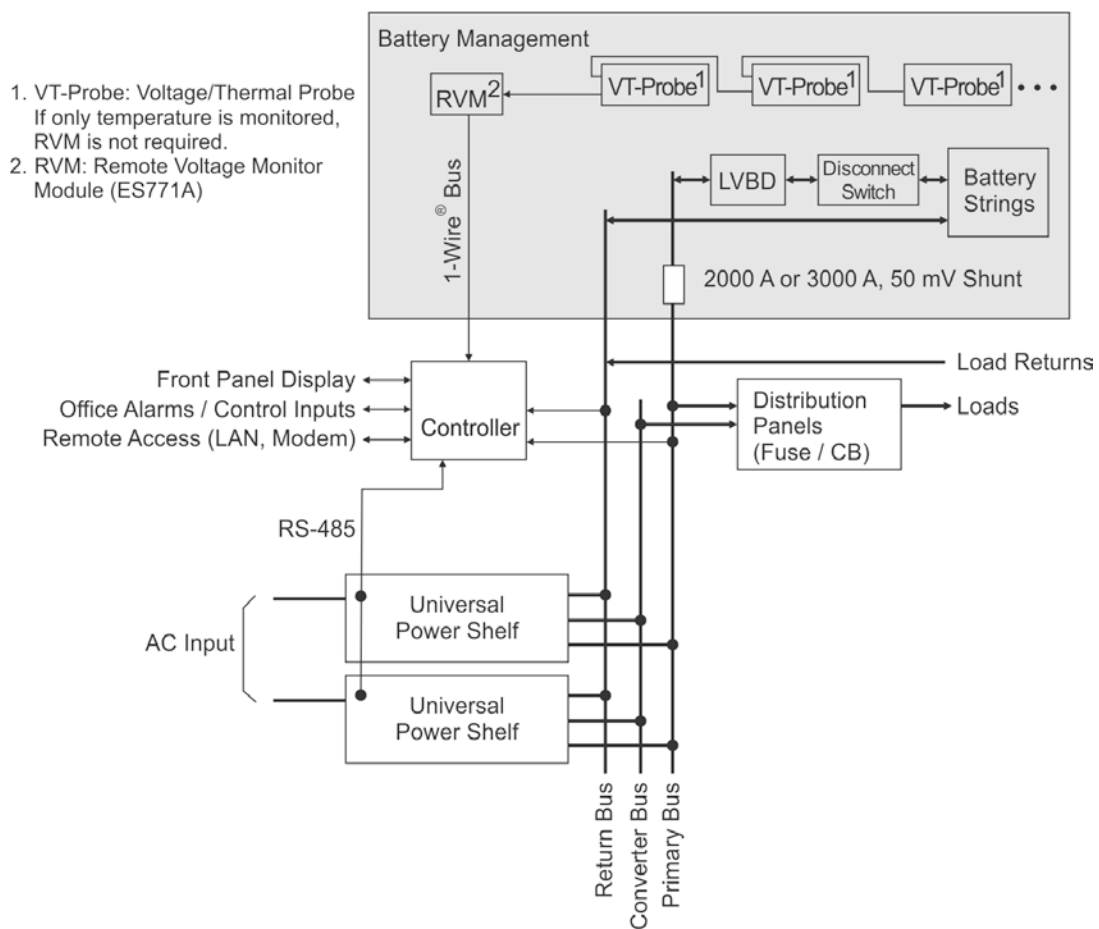

Figure 1 Block Diagram
*Infinity M (NE-M)* is available in multiple system arrangements. Block diagram - **Figure 1**. Refer to the *Infinity M Product Line Brochure* for detail description.